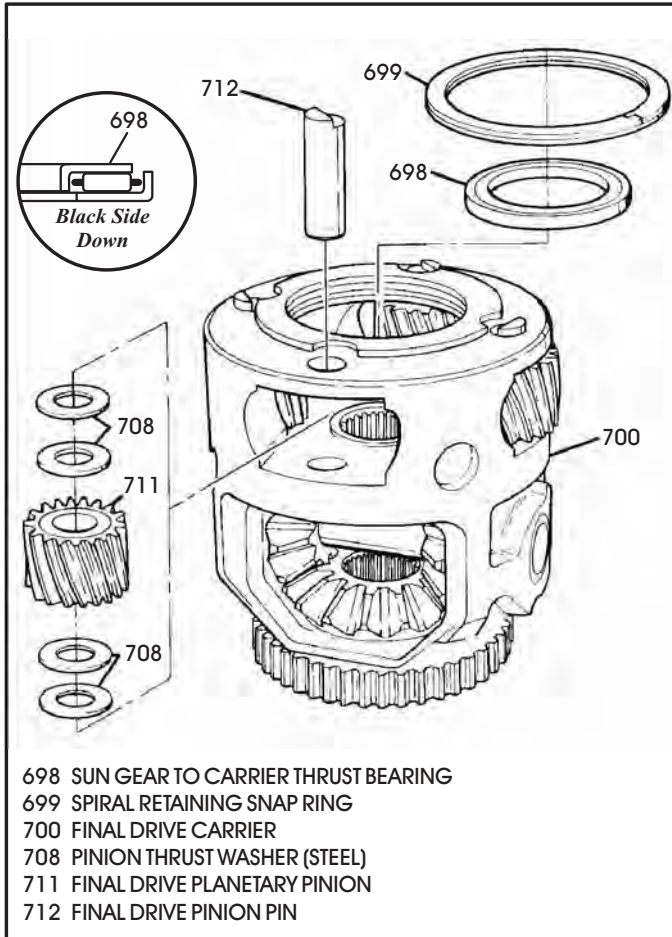

Figure 83
10. Install two of the pre-assembled pinion gears into the carrier with the washers towards the outside, as shown in Figure 83.
11. Install the sun gear to carrier thrust bearing into carrier in direction shown in Figure 83, before installing the other two pinions and pins.
12. Install the remaining pinion gears and pinion pins, as shown in Figure 83.